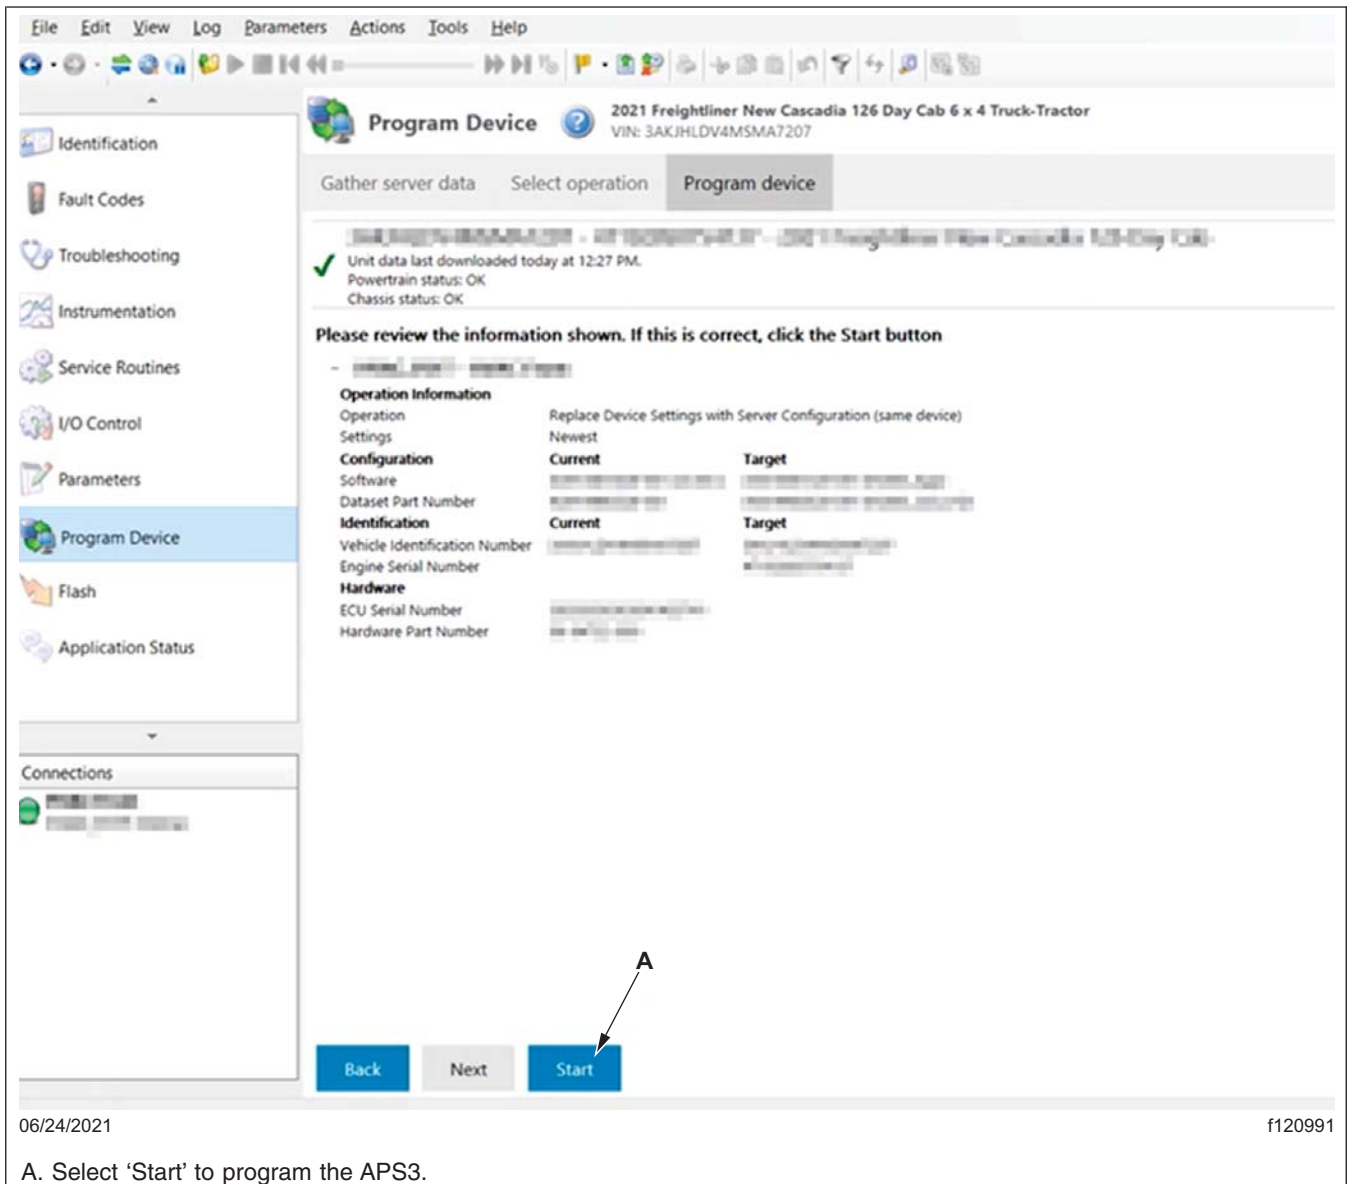

Fig. 5, Starting the APS3 Programming
11. Verify the VIN, hardware and software information, then select 'Start' to program the APS3. See Fig. 5.